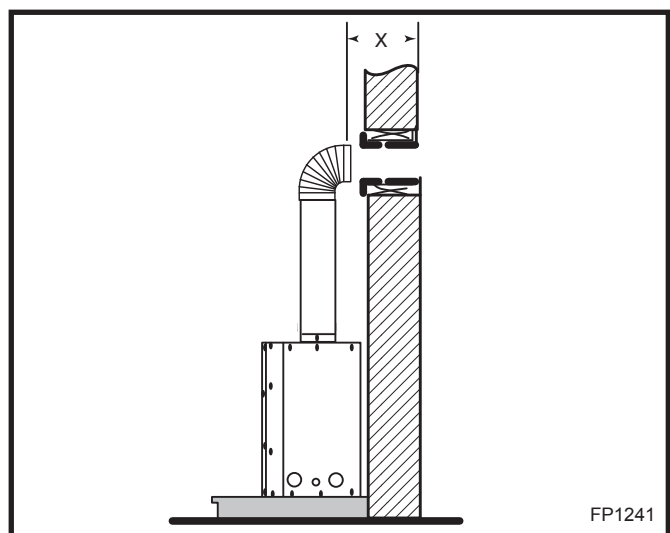

Fig. 45 Horizontal length requirement.
Using appropriate venting component(s) attach to fireplace with three (3) screws. (Fig. 45) Follow with the installation of the inner and outer elbow. Again secure joints with three (3) sheet metal screws.
Measure the horizontal length requirement including a 2" (51 mm) overlap, ie from the elbow to the outside wall face plus 2" (51 mm) (or the distance required if installing a second 90° elbow). (Fig. 45)